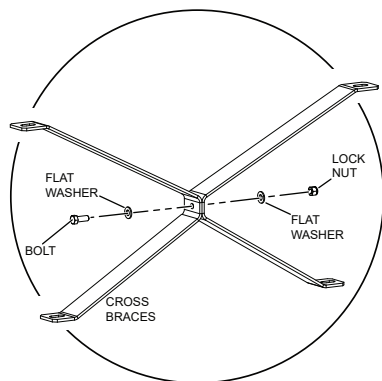

Figure 7. X-Brace
4. Secure cross braces (2) together using a bolt, flat washer (2), and lock nut to form the X-Brace. See Figure 7.